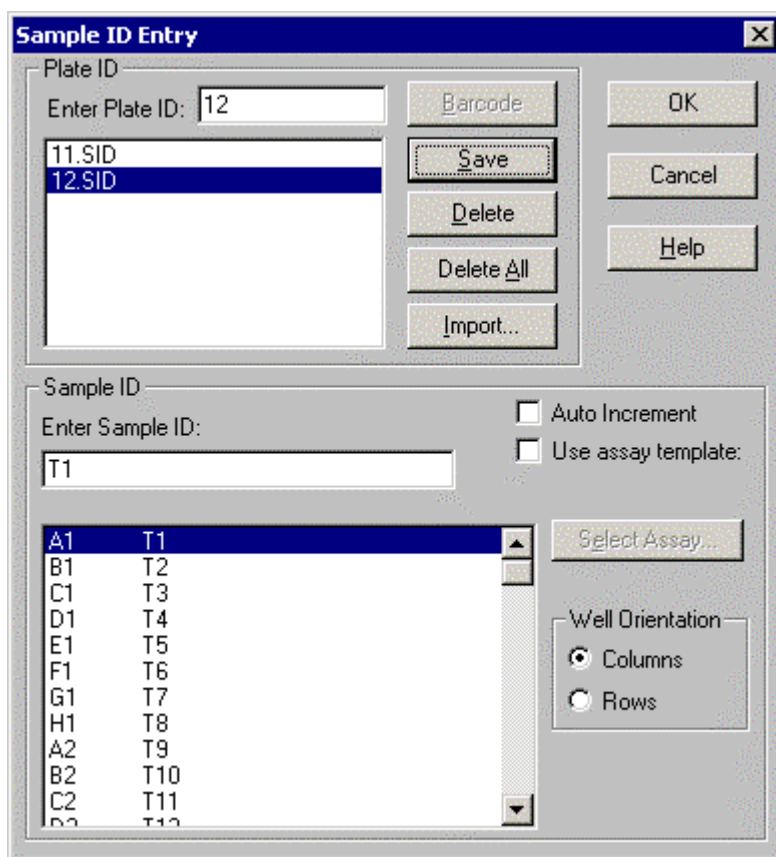

Figure 4-13 The Sample ID Entry Dialog Box
**Sample ID Entry** - Sample ID files are stored in the SID directory by default and are identified by the .SID file extension. When you run a plate, the program can be set up to automatically search for a sample ID file to attach to the data. For this to work, the sample ID file must have the same name as the plate ID. The *Sample ID Entry* dialog box is presented in Figure 4-13.